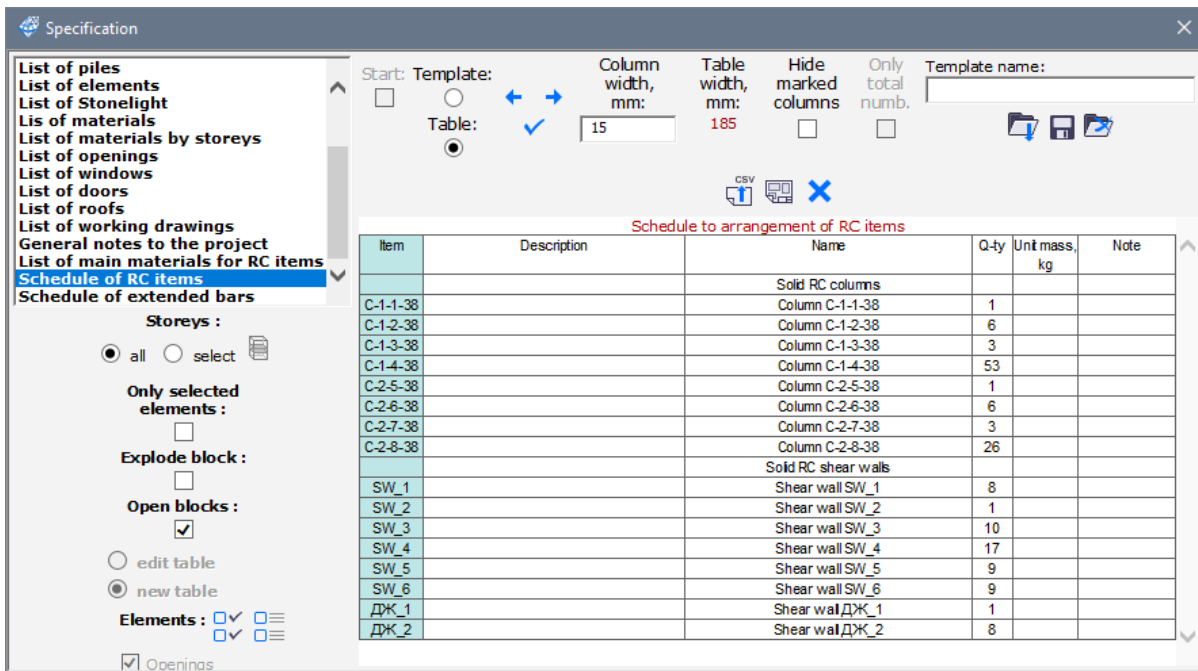
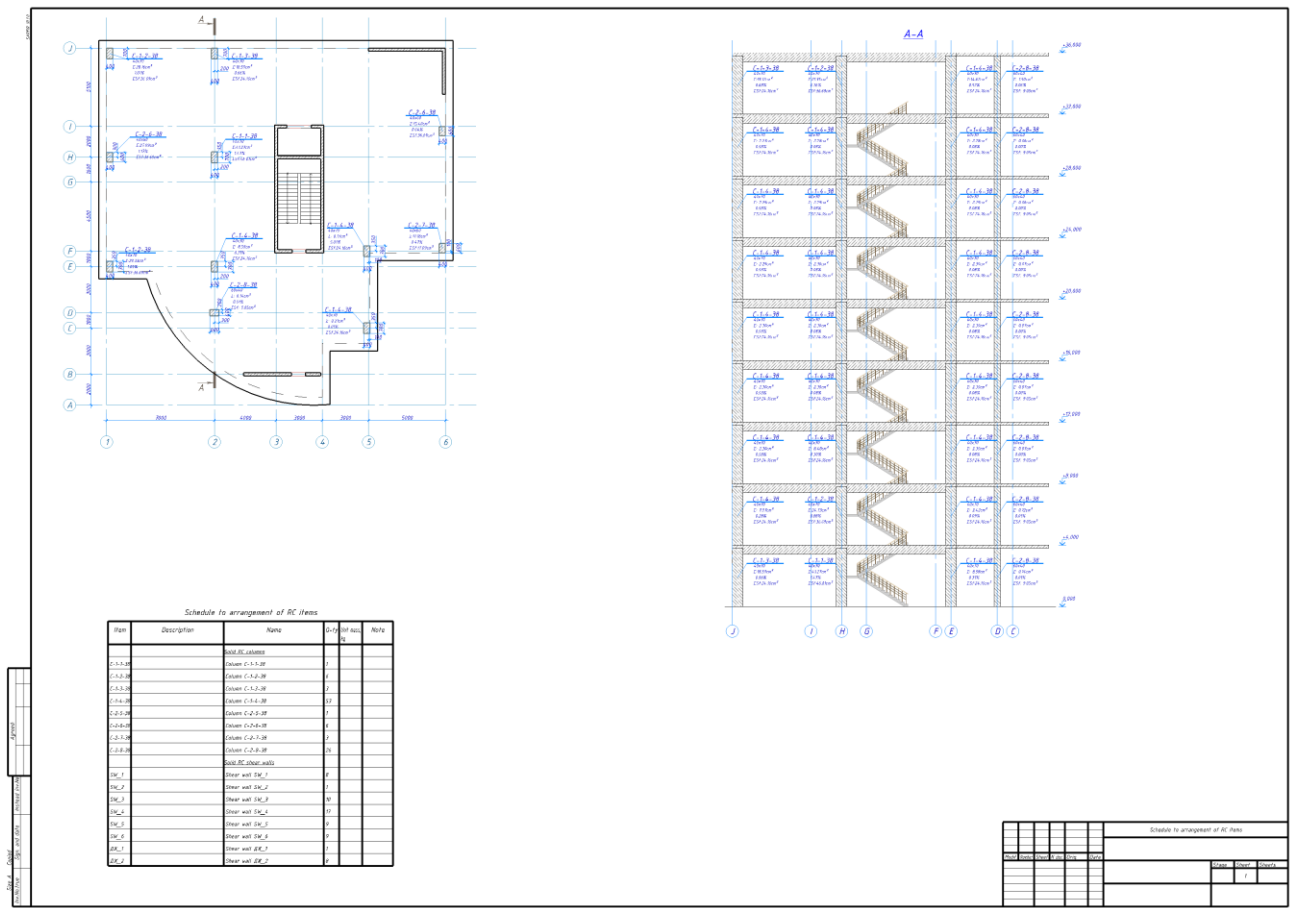

Figure 27.16. Schedule dialog box
Figure 27.18. Sheet of drawing that contains plan and section view with tags as well as schedule
⇒ In the **Schedule** dialog box (see Fig. 27.16), define the following data:
- ⇒ Close the **Schedule** dialog box (Fig. 27.16). The schedule will be displayed on the sheet of drawing together with plan and section view (see Fig.27.18).